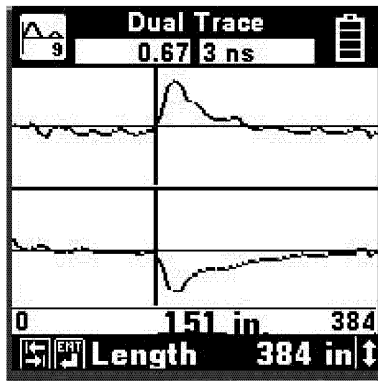

Figure 16. AST900 TDR Dual Trace Selection
(5) Press the Enter key  to accept the choice (updated in the previous Setup step) and start the measurement.
c. Dual Trace (Figure 16).